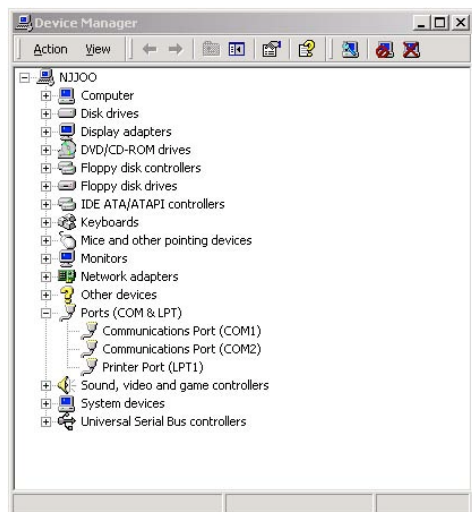

figure 3
- 1) Open the control panel of computer to click “Device Manager”, and then double-click COM1 (as showed in Figure 3);